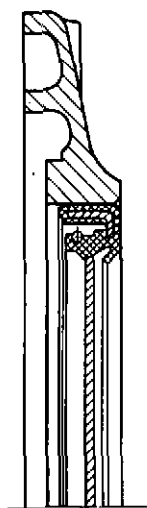

Fig. 3
- Using installation plate 6.206.0.690.005.4 with drift press, force seal fully home (Fig. 3 and 5).